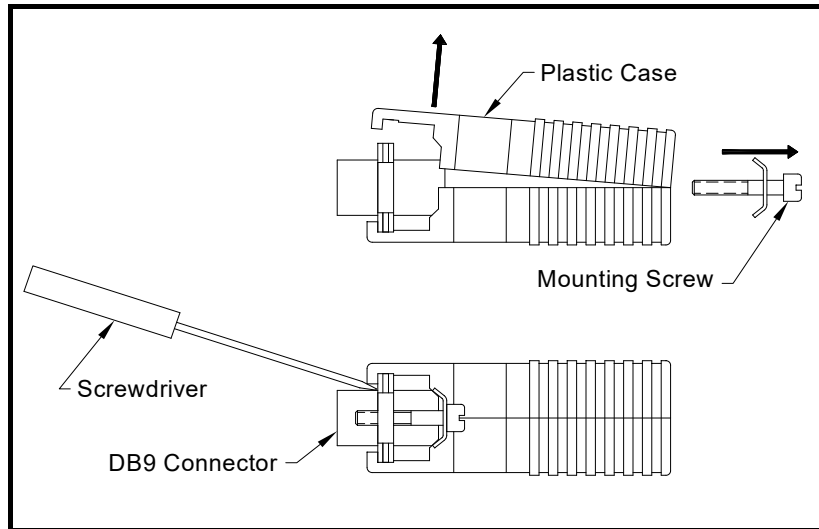

Figure 6-2: Opening the Converter Case
5. Use a small screwdriver to pry open the *plastic case* of the serial interface converter, as shown in Figure 6-2 on page 6-6.